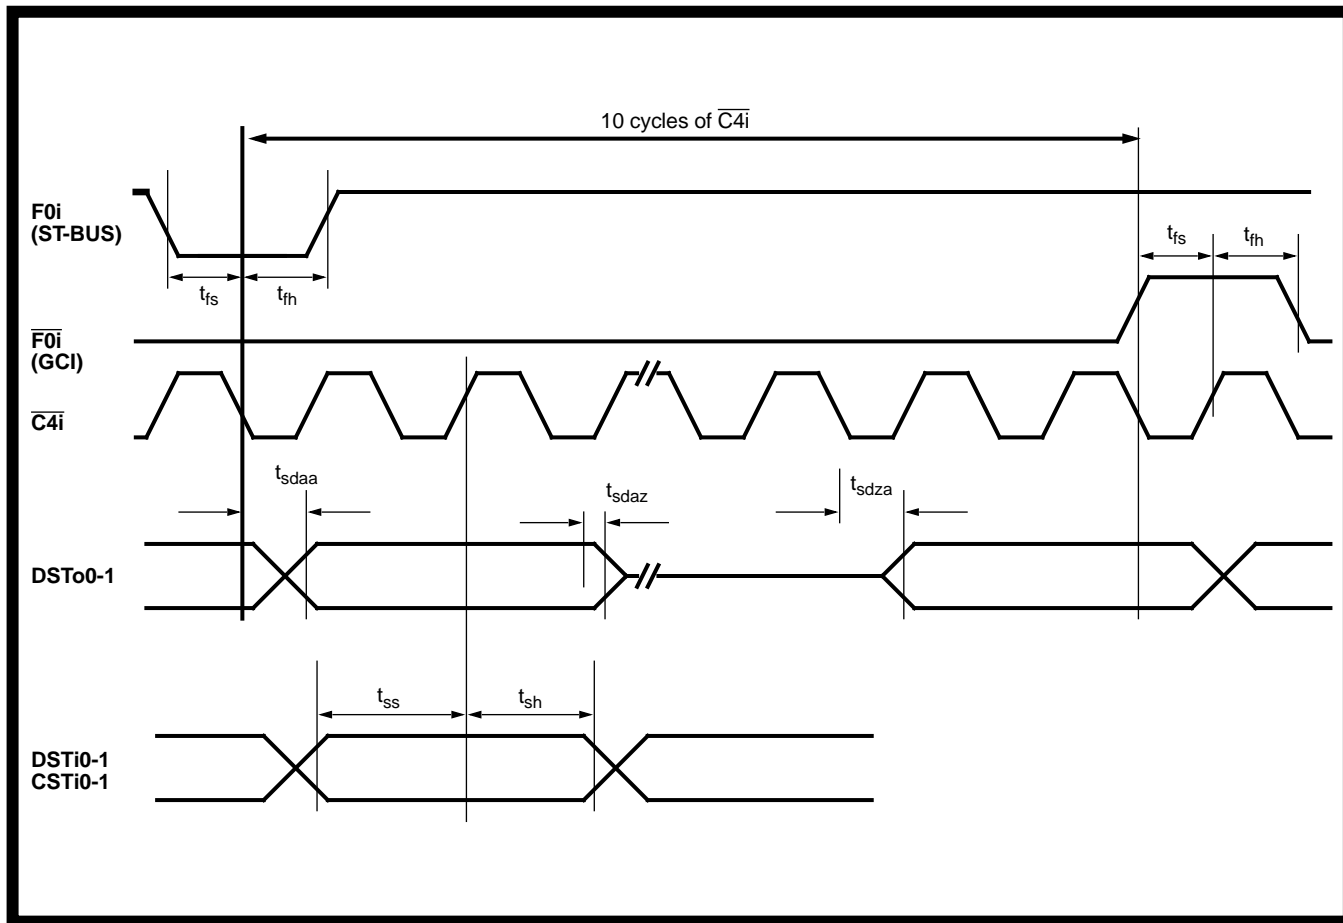

Figure 13 - TDM Bus Timing
**AC Electrical Characteristics† - TDM Bus (See Figures 13 and 14a, 14b).** Voltages are with respect to ground ( $V_{SS}$ ) unless otherwise stated.